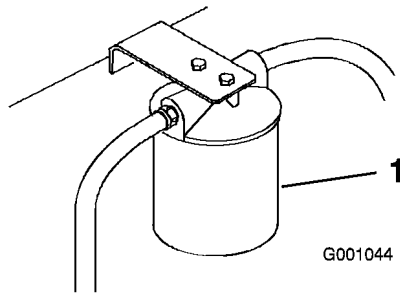

Figure 71
3. Place drain pan under filter, remove the old filter and wipe the filter adapter gasket surface clean (Figure 71).